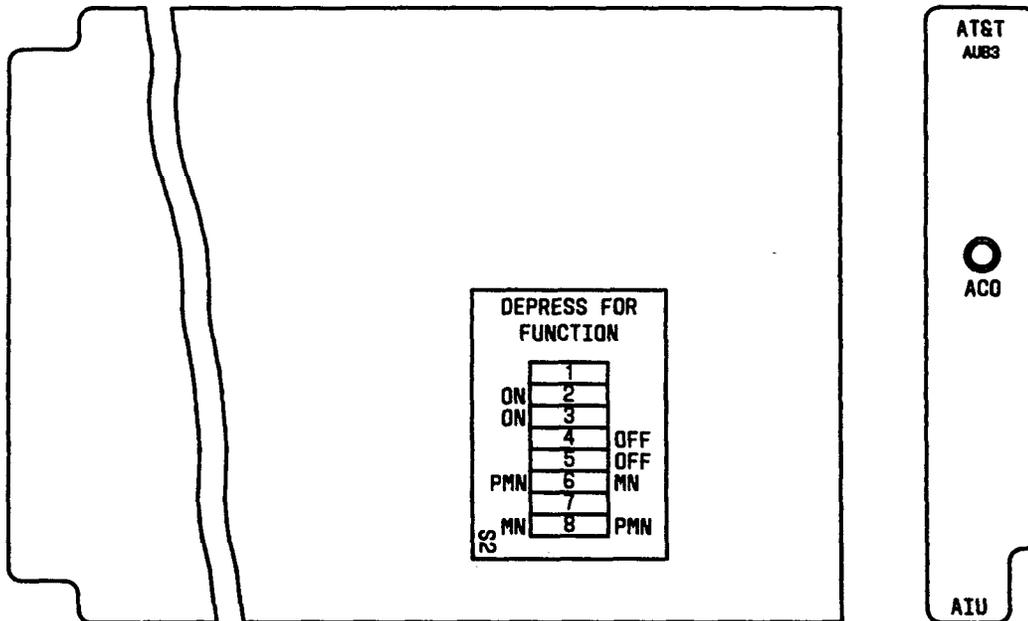

Figure 2—AIU Option Switch (New Version)
2. On ADU option switch S1 (FIG. 1) or S2 (FIG. 2), use an orange stick (KS-6320, L1) or equivalent and set switches as follows: